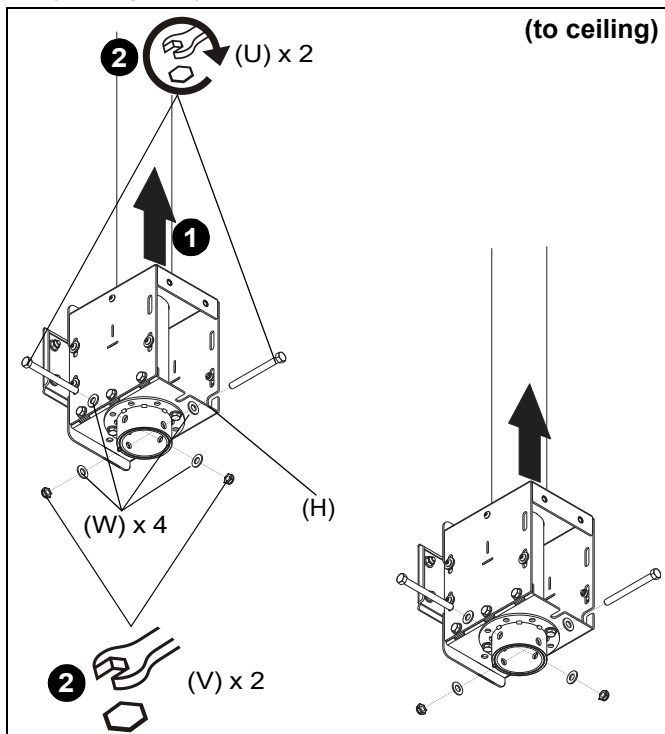
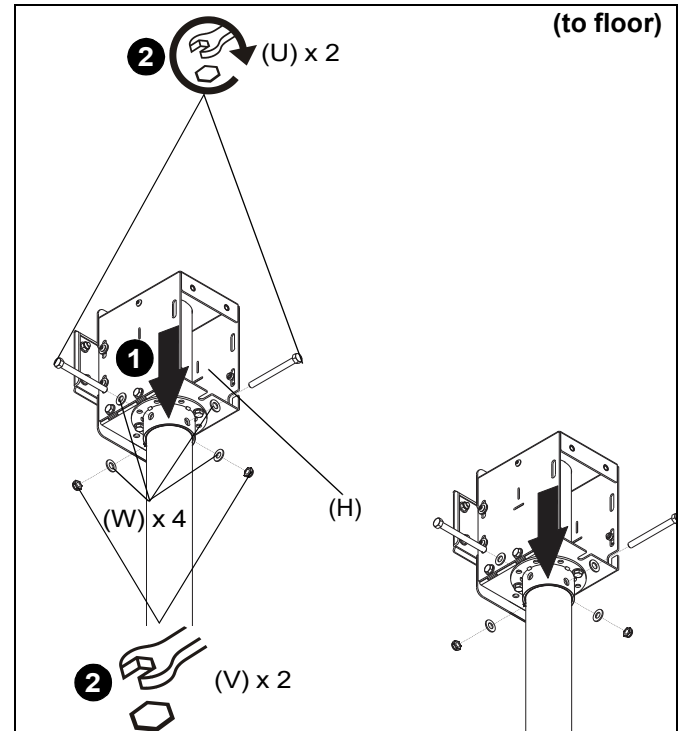

Figure 1
Figure 2
- Slide mount assemblies (H) onto ODAC Series Floor/Ceiling Columns. (See Figure 1) or (See Figure 2)
- Use two 3/8-16 x 4 1/4" hex head tapping bolts (U), four 3/8" washers (W) and two 3/8-16 hex nuts (V) to secure each mount assembly (H) to each column. (See Figure 1) or (See Figure 2)